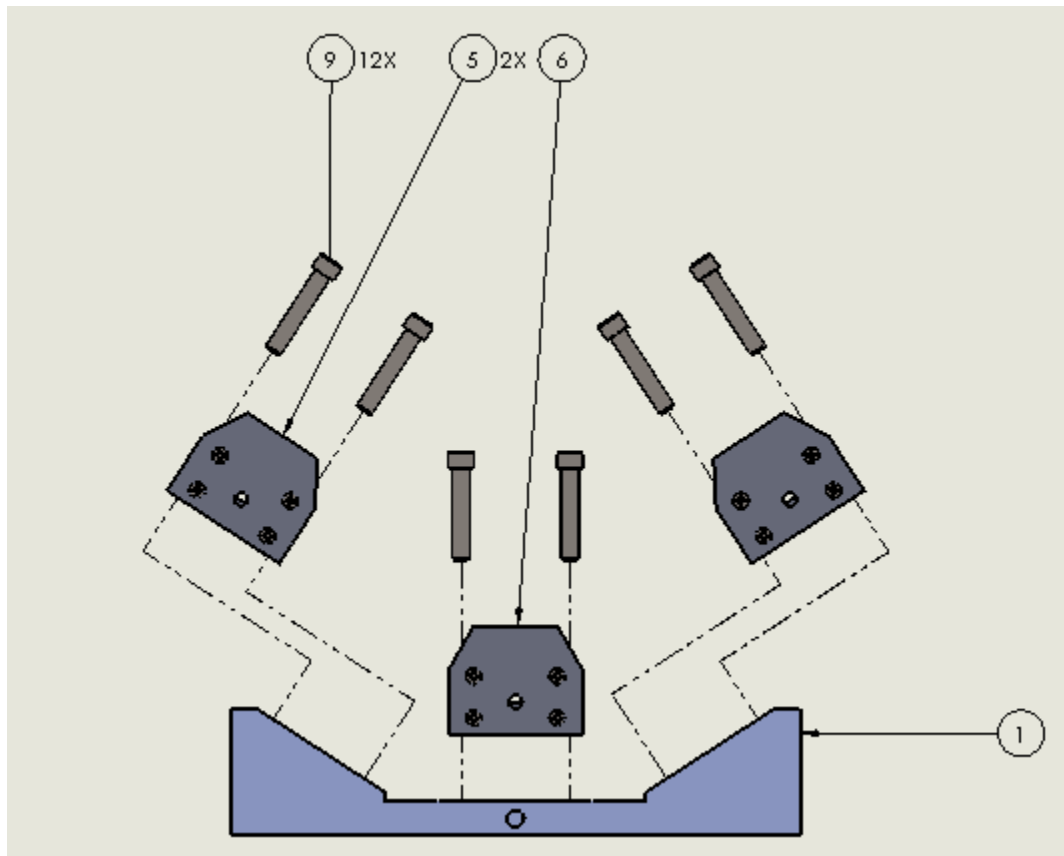
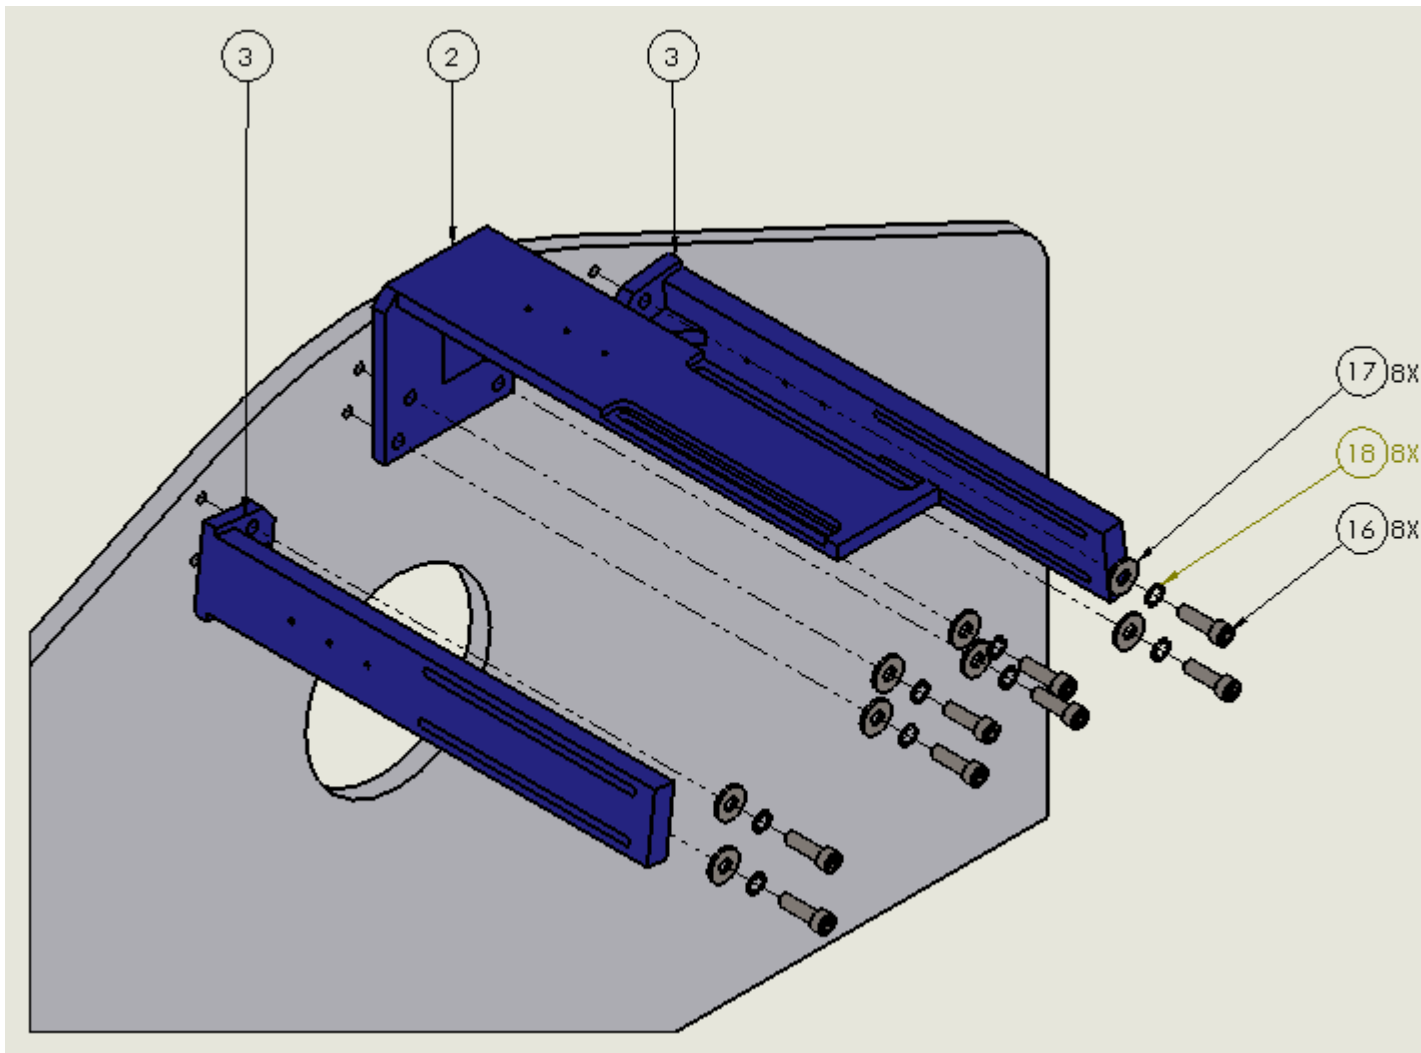

Figure 4 – Assembly of TL102A/L lights on 202007 light block. The center position is unused in the 6 lamp system.
Figure 5 – Bracket Mounting
- a. Bolt thru item 26 using (2) existing holes in main frame as shown.
- c. After transferring (4) holes, flip item 26 as shown to transfer remaining (2) hole locations. Remove tool.
- d. Drill and tap (6) M10 x 1.5 holes at marked locations
3. Populate (2) item 1, light blocks, with TL102A/Ls as shown in figure 4.
4. Install the lower light bracket (item 4) to machine using existing method and hardware.
5. Install brackets items 2 and 3, with hardware 16, 17, 18 as shown in figure 5.